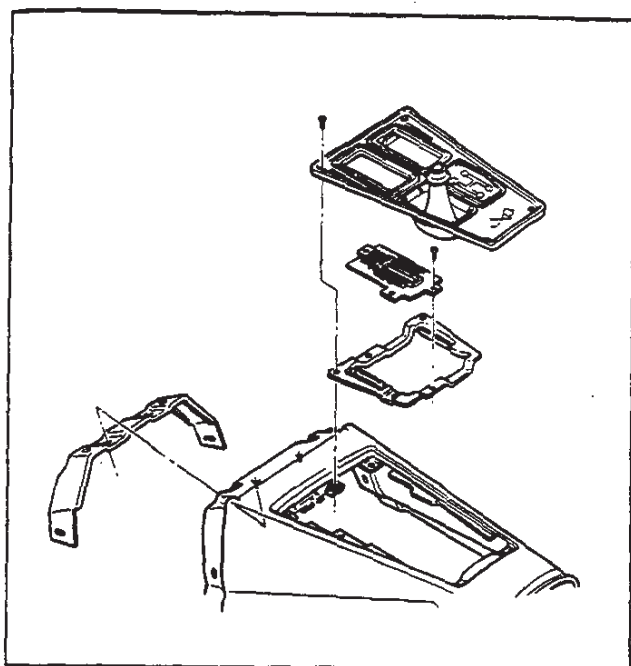

Fig. 7—Front Console Assembly
6. Having first disassembled heater and side vent controls, shift knob assembly, boot assembly, and trim plate, remove front console assembly by carefully pulling rearward and upward (fig. 7).